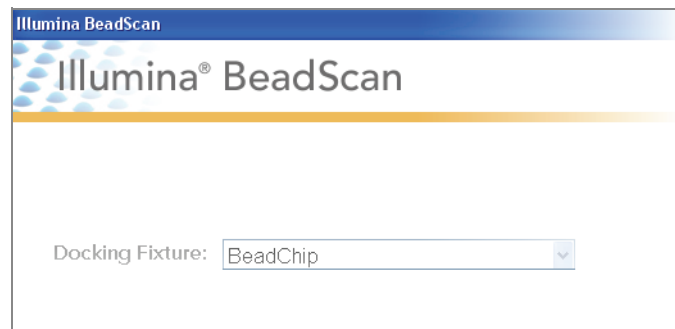

Figure 212 Select BeadChip Docking Fixture
1. From the **Docking Fixture** listbox, select BeadChip (Figure 212).